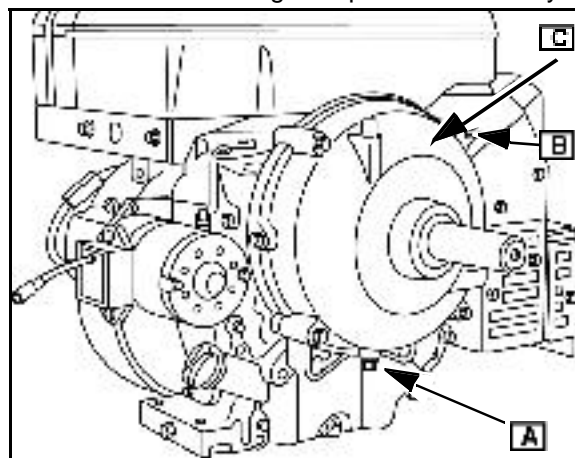

Fig. 22
1. Remove the drain plug (A). Drain the oil from the gear housing into an appropriate container.
3. Remove four cover screws (B) and cover ([C] Fig. 22). Inspect cover for bearing wear and damage. Replace if necessary.